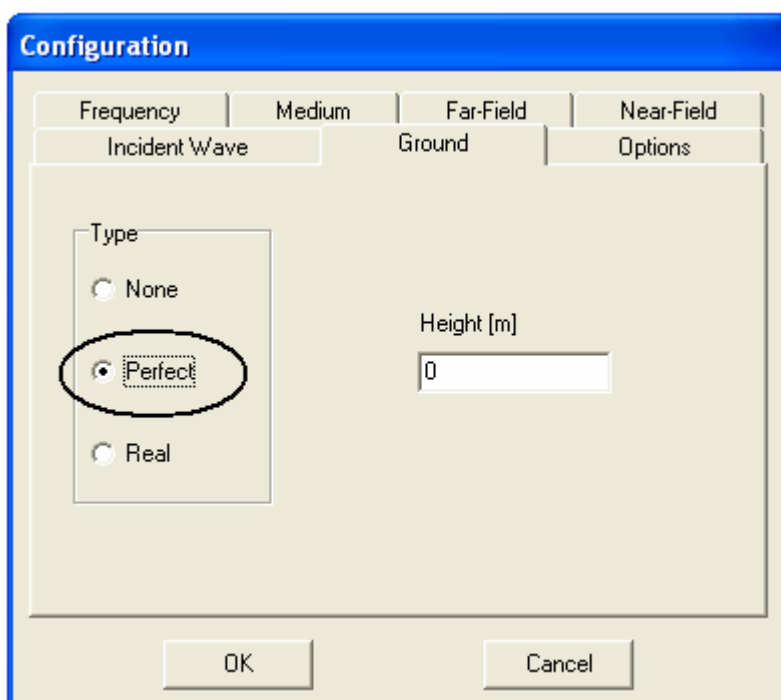

Fig. 10.1: Perfect option in the Ground page of the Configuration dialog box. The ground plane position is given by the value of Height.
3. Check the **Perfect** option, Fig. 10.1.